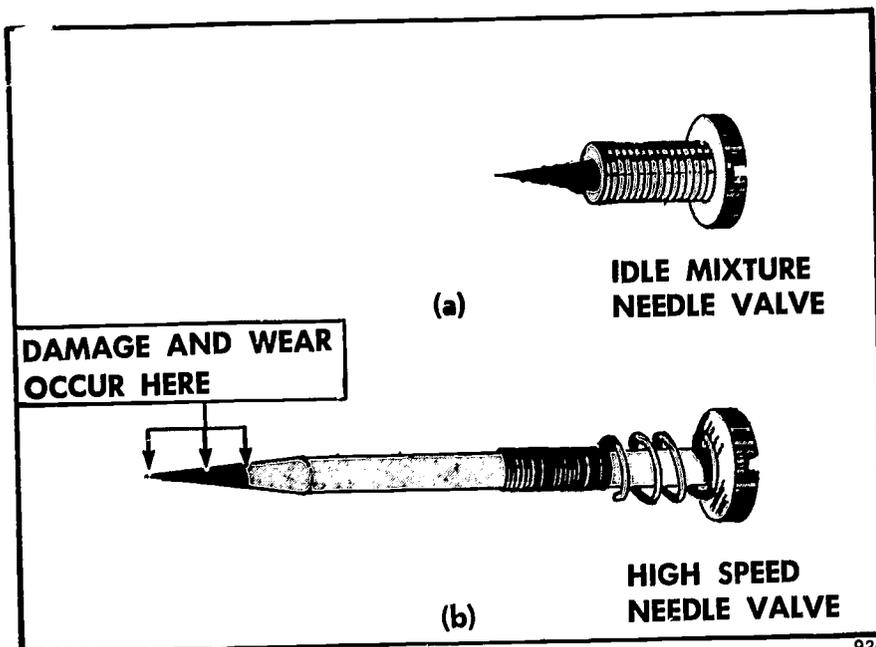

FIGURE 142. Where damage or wear occurs on needle valves.
2. *Remove and check the condition of the needle valves (Figure 142).*